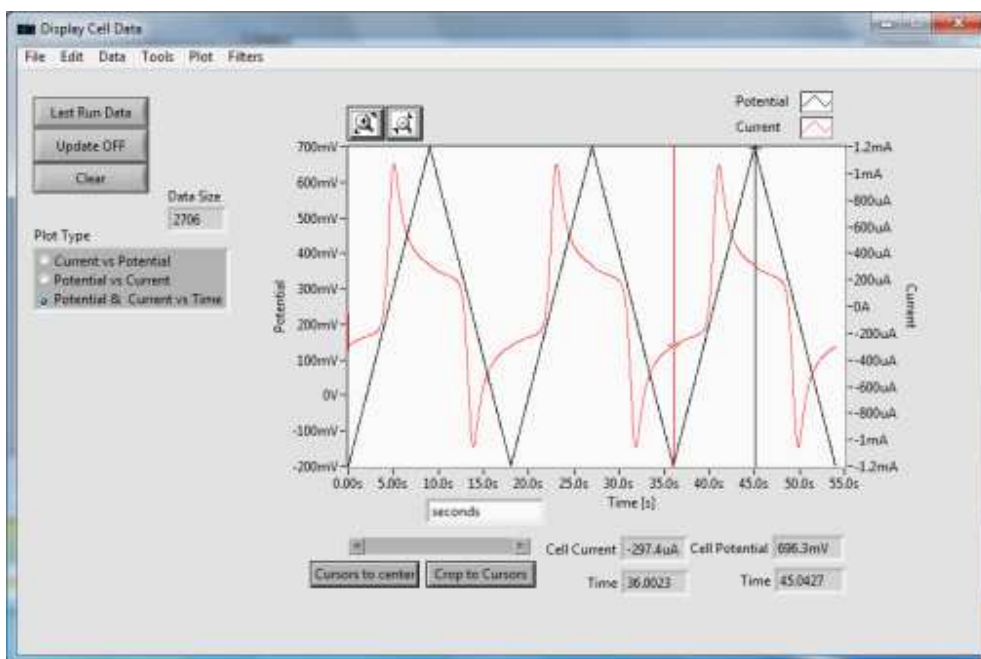

**Figure 59.** [Butterworth filter]
4. [Butterworth filter] is shown in figure 59. In this window, the user can select to apply the filter to the current, potential, or both. Maximum Frequency is the suggested maximum value for Cutoff Frequency. Cutoff Frequency is the value at which to apply a low pass filter. Only the frequency below the Cutoff Frequency will be allowed to pass. Any value above the Cutoff Frequency will be blocked. The Filter Order applies to how steep the cutoff transfer function will be. The higher order leads to better frequency resolution, but might result in larger ripples in the passband. For more information, visit: